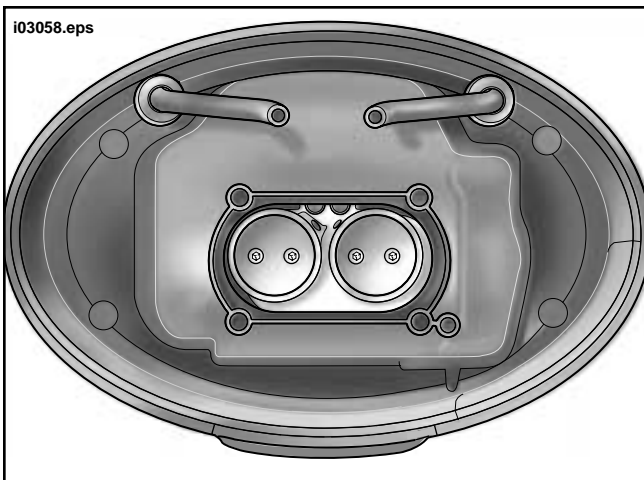

Figure 2. Air Cleaner Backplate
3. To adjust the warm-slow idle speed, locate the set screw through the hole in the air cleaner backplate (lower right corner of the intake air inlet). See Figure 2.